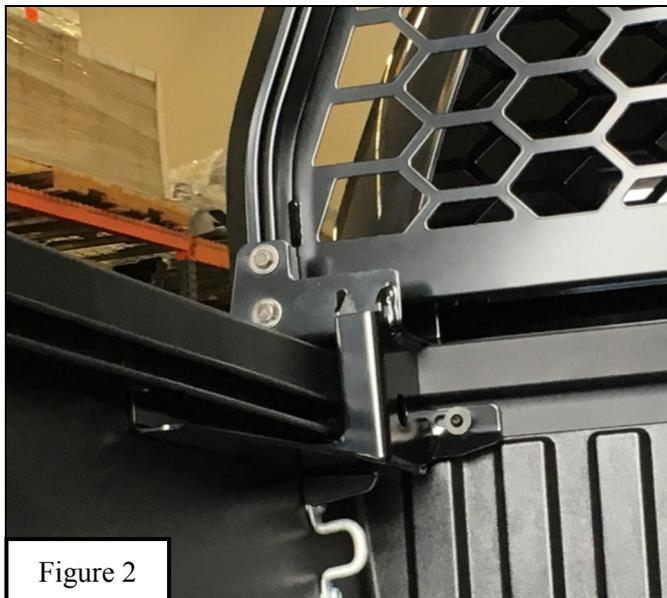

Figure 2
3. Obtain the Mounting Bracket and position it to the bed as shown in **Figure 2.**